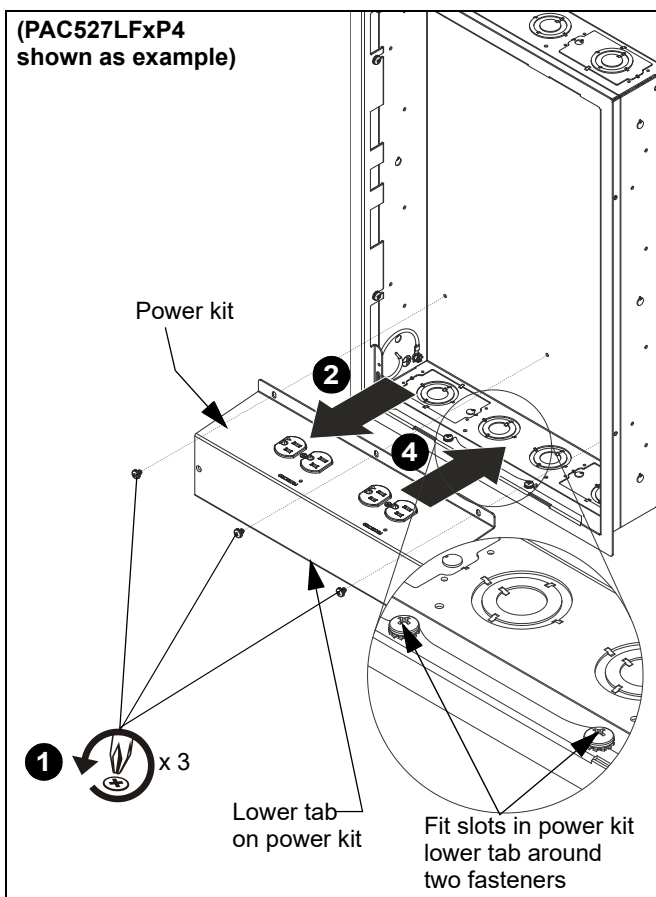
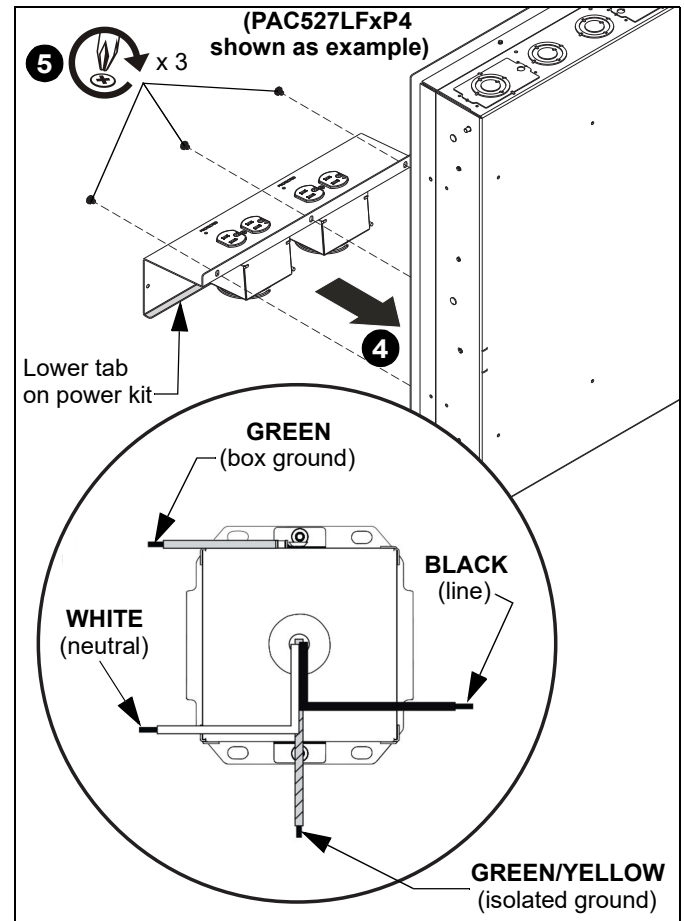

Figure 1
Figure 2
1. Remove and save three Phillips head screws holding power kit within box. (See Figure 1)
2. Remove the power kit from the in-wall box. (See Figure 1)
3. Wire the outlet box(es) as required. Refer to Table 1 and Table 2 for input and output specifications. (See Figure 2)
4. Replace the power kit in the PAC527L, fitting the two slots in the power kit lower tab around two fasteners in the PAC527L. (See Figure 1) and (See Figure 2)
5. Tighten three Phillips screws to secure power kit in the PAC527L. (See Figure 2)